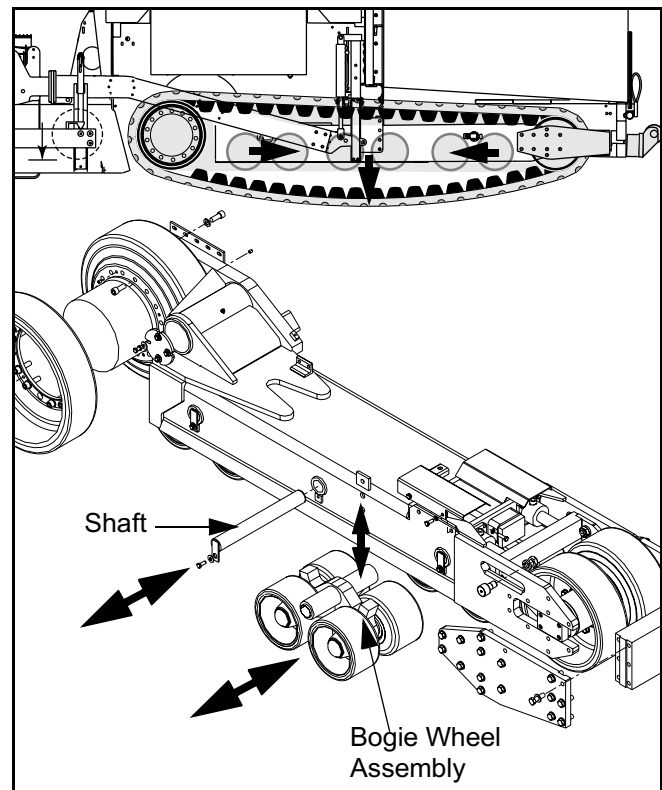

Figure 6 - 17 Bogie Wheel Assembly Removal
- 2) Remove shaft from track frame that holds center bogie wheel assembly to frame (Figure 6 - 17). This will allow the assembly to drop onto the track.